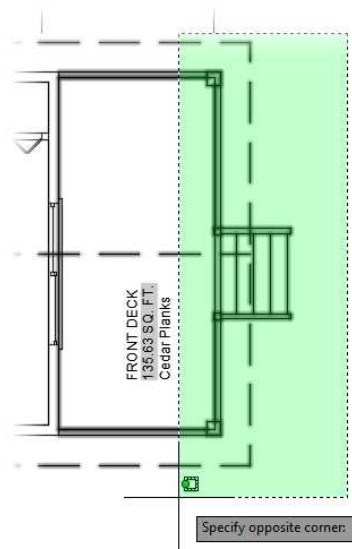

FIGURE 9.36: Select part of the front deck with the STRETCH command.
3. Start the STRETCH command, and drag a crossing window to enclose part of the front deck, as shown in Figure 9.36.